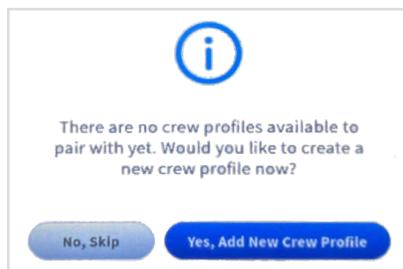
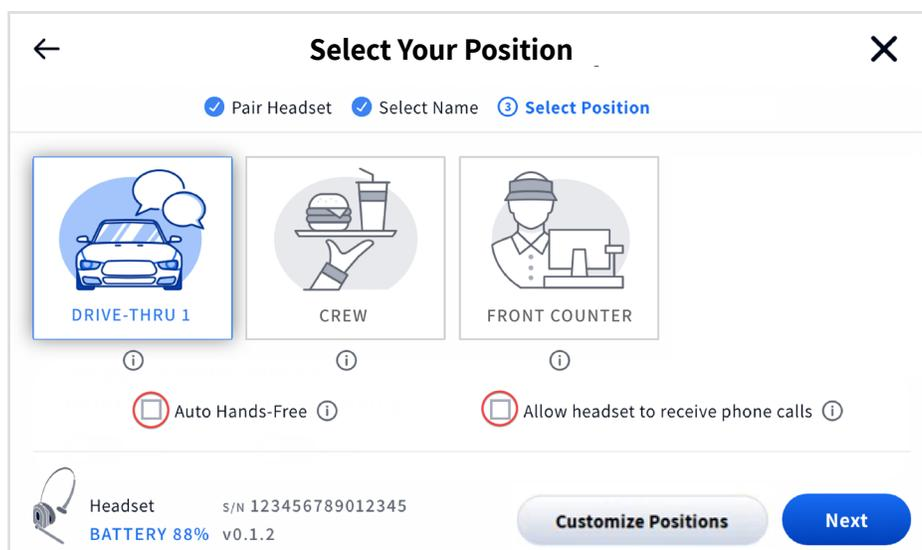

Fig. 1.22
Fig. 1.24
- \*\* The person you are calling must be enrolled in the Crew Profile directory and wearing a headset. See Fig. 1.22 for example. You cannot call an individual if they are using the headset but not enrolled (i.e., the user selected “Continue as guest” when pairing). First names, last names, or full names can be used. For example, if there are two crew members with the same first name, then the headset will prompt you to use the last name of the person you wish to talk to. The receiver must tap the Action key () on their headset to answer. To end the call, either person can tap the Action key () and exit this state.
Once your headset is successfully paired, one of two dialog boxes appears. If there are no crew profiles set up in the system, then Fig. 1.22 will appear. Tap the **No, Skip** button to continue as a guest (this will open the “Select Your Position & Options dialog,” see Fig. 1.24). Or, tap the **Yes, Add New Crew Profile** button (this will open the Create Crew Profile dialog, see “Chapter 2 - Crew” on page 16 and Fig. 2.2).
When the **Select Your Position** dialog appears (Fig. 1.24), you are prompted to select a position. Tap on one of the available tiles to select it (DRIVE-THRU 1 is selected in Fig. 1.24). If you are selecting the DRIVE-THRU position, you also have the option of **Auto Hands-Free** mode (the first checkbox located below the position tiles). This allows you to connect with a new customer without having to connect manually by tapping the headset keypad.
The other checkbox option is **Allow headset to receive phone calls** (see Fig. 1.24). Stores that have a landline telephone may wish to have it connected to the NEXEO system so that a NEXEO headset can be used to receive incoming phone calls. When this box is checked, the  (Action) key on a designated headset keypad can be used to answer incoming calls. Only one headset can be designated to receive phone calls, and your system must have a TI7000 installed. The TI7000 is a Telephone Interface module used to connect the store telephone to the base station. The TI7000 must also be enabled on the base station. See **Telephone Interface** under “Settings” on page 27.